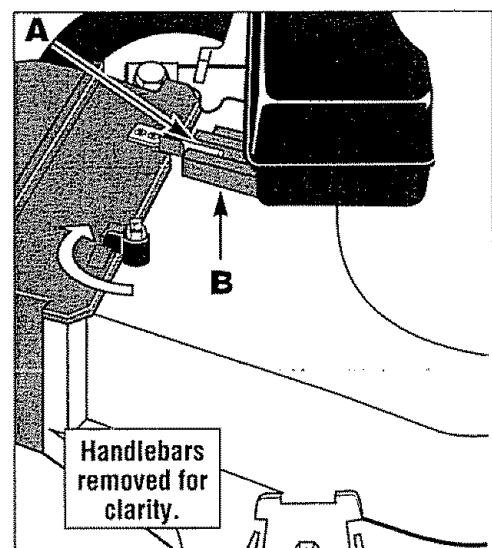

Figure 20: Safety Interlock System.
Your machine is equipped with a Safety Interlock System which prevents the engine from starting unless the collection bag (or blower deflector) is installed. The rod (A, Figure 20) must be positioned as shown in slot (B) in order to start the engine.